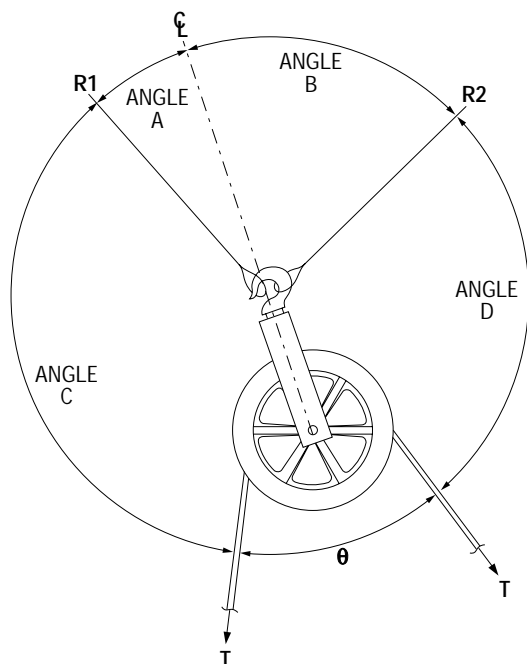

Figure 2 - Single Hook Sheave with two attachment points
### CALCULATING THE LOAD ON SINGLE HOOK SHEAVES with two attachment points (Figure 2)
- Determine the angles "A" and "B" (Figure 2) by extending an imaginary line beyond the yoke as illustrated
- Determine the angles "A" and "B" (Figure 2) by measuring angles "C" and "D" and using Formula #2 below.
Measure angles "C" and "D" (see Figure 2)